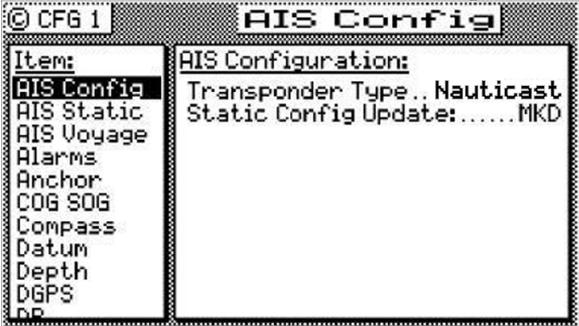

Fig 1.07 AIS Configuration Screen
6. Press *E* to exit the *AIS Config* screen. Your screen should look like Fig 1.07.